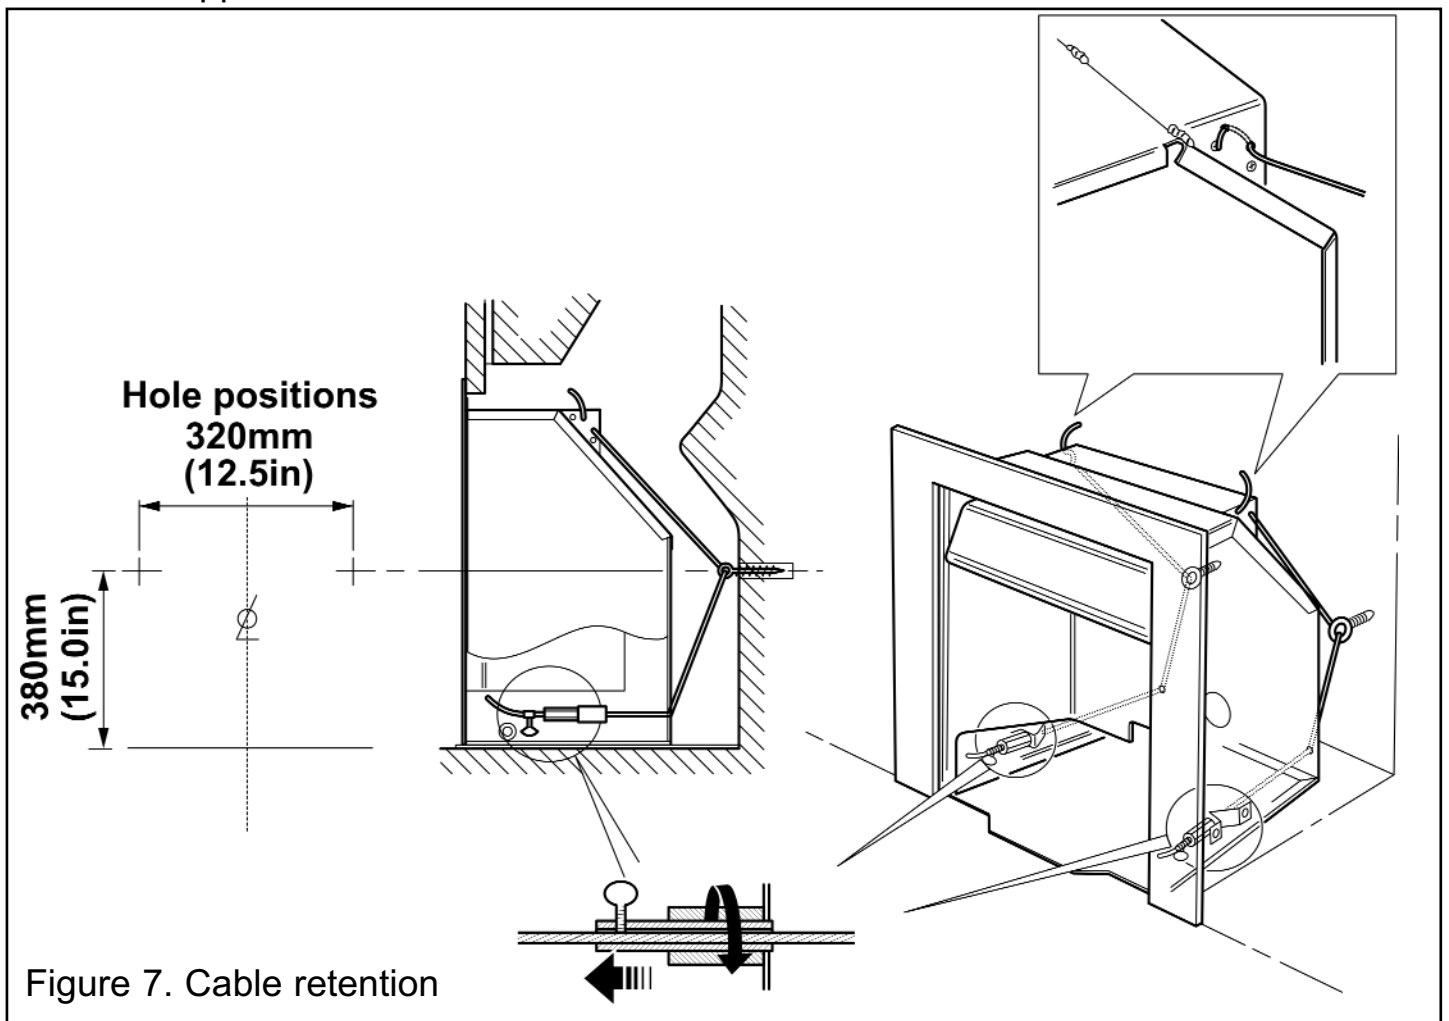

Figure 7. Cable retention
1. Drill two holes in the rear wall of the fireplace for the eyebolt plugs. The holes should be drilled in the positions shown in figure 7 using a suitably sized masonry drill for the wall plugs supplied. The holes should be equidistant each side of the centre line of the fireplace to ensure that the appliance finishes centrally in the opening when tension is applied to the cables.
4. The convection box has two holes at each end of the debris deflector (See figure 7). Insert one end of each cable (one cable each side) from the back through the lower of the two holes and return the end through the upper of the holes (See figure 7). Give the cables a pull so that they grip against the debris deflector sides.
5. Thread the cables through the eyebolts. Return the cables through the holes near the bottom of the convection box back panel and through the brackets near the bottom of the convection box sides (See figure 7).
8. Pull each cable taut. Push the cable retainers hard up against the brackets. Tighten the screws in the retainers so that they clamp the cables in position. Apply tension to the cables by turning the hexagonal adjusters by hand (See figure 7).